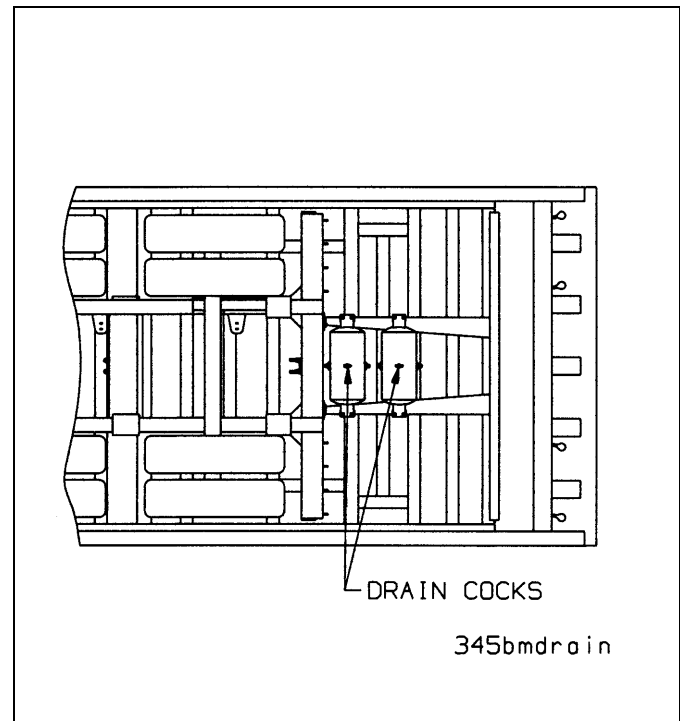

Figure 4-6: Drain Cock Locations
4. Drain air reservoir daily. A drain cock on the bottom of each air reservoir vents the tank to drain collected water and oil. If held open, air pressure in the tanks is relieved, causing the emergency or parking brakes to be applied (**See Figure 4-6.**)